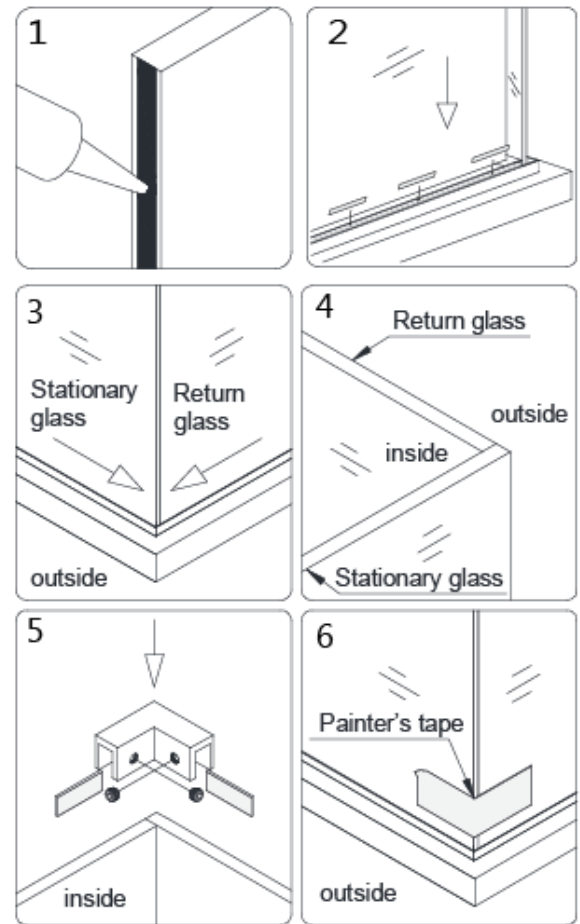

Fig. 21
**See Fig. 21 & 22 for details**